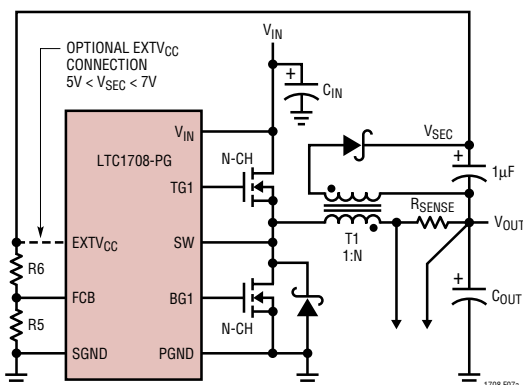
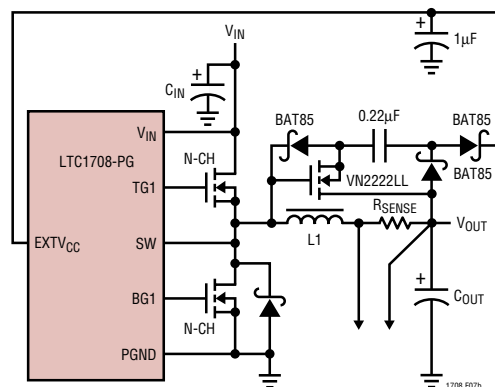

Figure 7a. Secondary Output Loop &  $EXTV_{CC}$  Connection
Figure 7b. Capacitive Charge Pump for  $EXTV_{CC}$
4.  $EXTV_{CC}$  Connected to an Output-Derived Boost Network. For 3.3V and other low voltage regulators, efficiency gains can still be realized by connecting  $EXTV_{CC}$  to an output-derived voltage that has been boosted to greater than 4.7V. This can be done with either the inductive boost winding as shown in Figure 7a or the capacitive charge pump shown in Figure 7b. The charge pump has the advantage of simple magnetics.